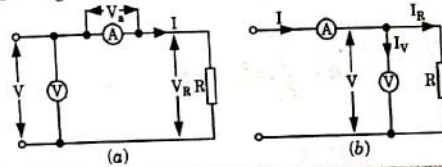

Fig. 2.3.1. Measurement of resistance by ammeter-voltmeter method.
3. Two types of connection are used in this method. The connections are shown in Fig. 2.3.1.
- a. Consider circuit of Fig. 2.3.1(a).
- b. Consider circuit of Fig. 2.3.1(b).